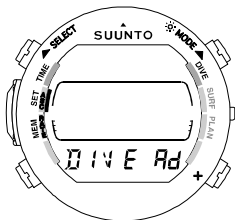

Fig. 5.10 Dive Adjustment Mode .
1. In the Setting Mode [SET], press **SELECT** four (4) times to select the Dive Adjustment Mode (Fig. 5.10).